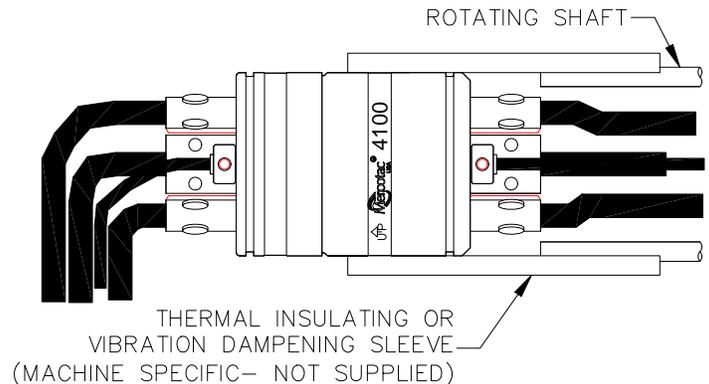

Fig 2
6. Vibration and mechanical shock will reduce service life or cause connector failure. Some installations may require a shock isolating mounting, such as rubber tubing. <Fig 2>
7. The connector contains plastic materials, which are sensitive to heat. Over-heating will cause reduced life or connector failure. Provide thermal insulation where necessary to prevent temperature of the unit from exceeding 160°F (70°C). <Fig 2>